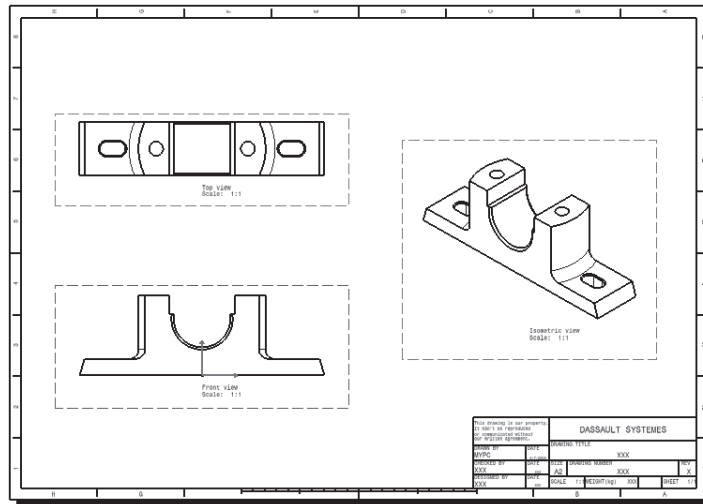

Figure 13-33 The drawing, sheet after generating the isometric view
- Generate the isometric view, refer to Figure 13-33.
4. Drag the view to an appropriate location by holding its frame, refer to Figure 13-33.
5. Click anywhere on the drawing sheet to generate the isometric view. The drawing sheet, after generating the isometric view, is shown in Figure 13-33.